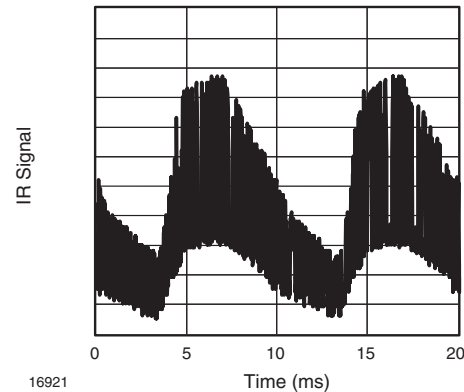

Fig. 14 - IR Distrubance from Fluorescent Lamp with High Modulation
- Strongly or weakly modulated noise from fluorescent lamps with electronic ballasts (see figure 14 or figure 15)